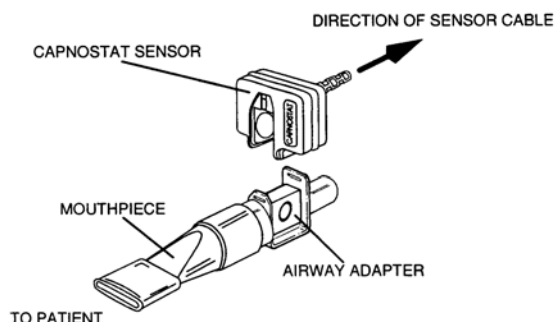

Figure 5
4. Patient should seal his or her mouth completely around the mouthpiece and breathe normally (see Figure 5).